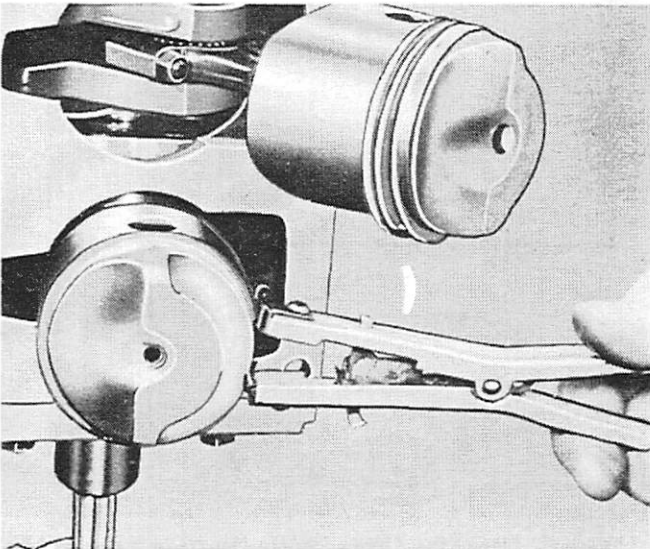

Figure 2. Removing (and Installing) Piston Rings
3. Remove piston rings with Piston Ring Expander (91-24697). (Figure 2)